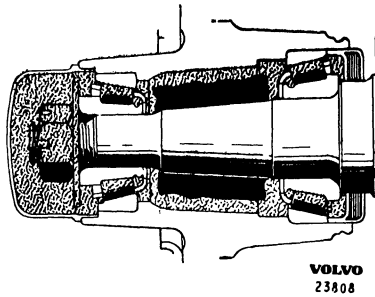

Fig. 7-22. Lubricating front wheel hub
7. Press grease into the bearings with the help of a grease gun. If such is not available, pack the bearings with grease by hand. Pack in as much as possible between the roller retainer and bearing inner ring. Also apply grease to the outer sides of the bearings and on the outer rings pressed into the hub. Fill the recess in the hub with grease all round up to the smallest diameter on the outer ring for the outer bearing, see Fig. 7-22.